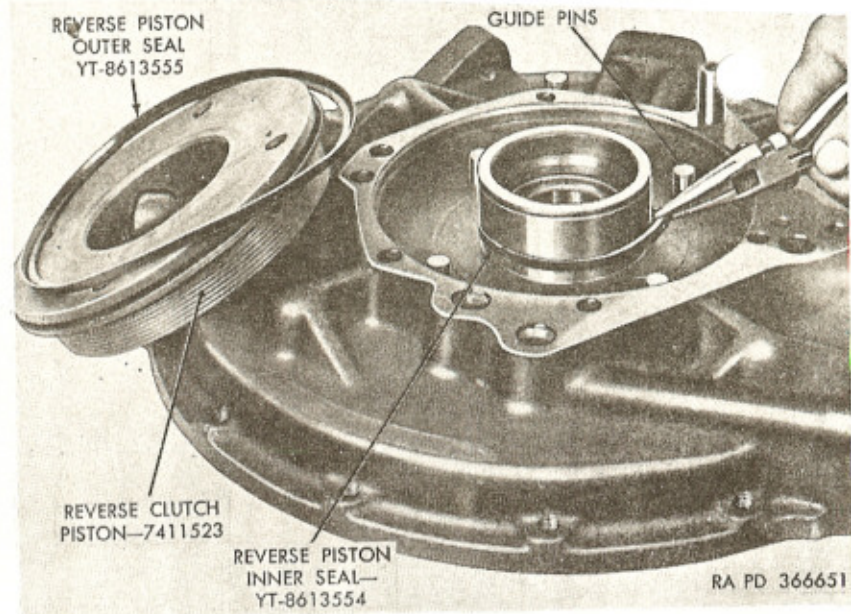
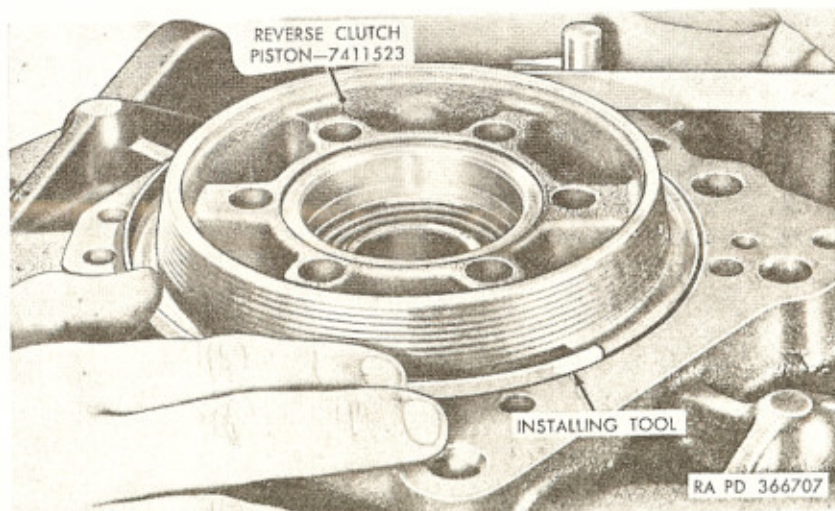

Figure 151. Removing seals from output shaft bearing retainer and reverse clutch piston.
Figure 153. Using tool—A7950335 to install reverse clutch piston assembly.
f. Using long-nose pliers as shown in figure 151, remove reverse piston outer seal (F) from reverse clutch piston (E) and remove reverse piston inner seal (G) from bearing retainer hub. Discard seals.
- a. Install the following parts in output shaft bearing retainer assembly (J): three 1/4-inch pipe plugs (H) and tighten to 8 to 10 pound-feet torque; two 1/8-inch pipe plugs (L) and tighten to 15 to 18 pound-feet torque; and one 3/8-inch pipe plug (N) and tighten to 18 to 23 pound-feet torque.
b. Install new reverse piston inner seal (G), with lip downward, in hub seal groove of bearing retainer.
c. Install a new reverse piston outer seal (F) on reverse clutch piston (E) with lip of seal toward piston guide pin holes. Refer to figure 151. Work seal well down into groove of piston.
d. Install reverse clutch piston (E) in bearing retainer as shown in (1) through (3) below.
- (1) Place piston in bearing retainer so that guide pins are not aligned with holes in piston. Pins hold piston out far enough to prevent damage to seal.
- (2) Wrap tool—A7950335 (fig. 153) around piston inside bearing retainer. Work tool down against shoulder in bearing retainer. Use of tool permits seal to slide past shoulder.